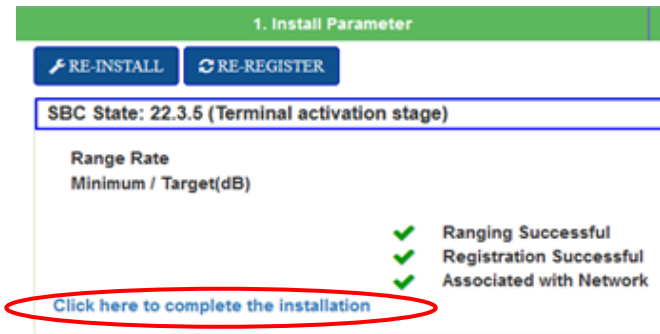

Figure 24
Step 41: When the Modem starts the Registration no actions is needed, just verify the 3 steps have **green flags** (fig. 24)
Step 42: Click '**CLICK HERE TO COMPLETE INSTALLATION**' and start the Self-Activation phase (fig. 24)
The Terminal Relocation Procedure allows to relocate a terminal (within one Beam or from one Beam to another) in case a customer changes address. A Work Order will be issued to provide all the necessary parameters and information. The installation process remains the same, with the exception that there is no need to start the Self-Activation phase and enter the Activation Key (Steps 42 to 45), since the process stops at the Registration Phase (Step 41) which in the Relocation case is composed of 5 Steps (Fig.36) instead of 3 (Fig.24) and ends with the message *Installation Completed!!!*